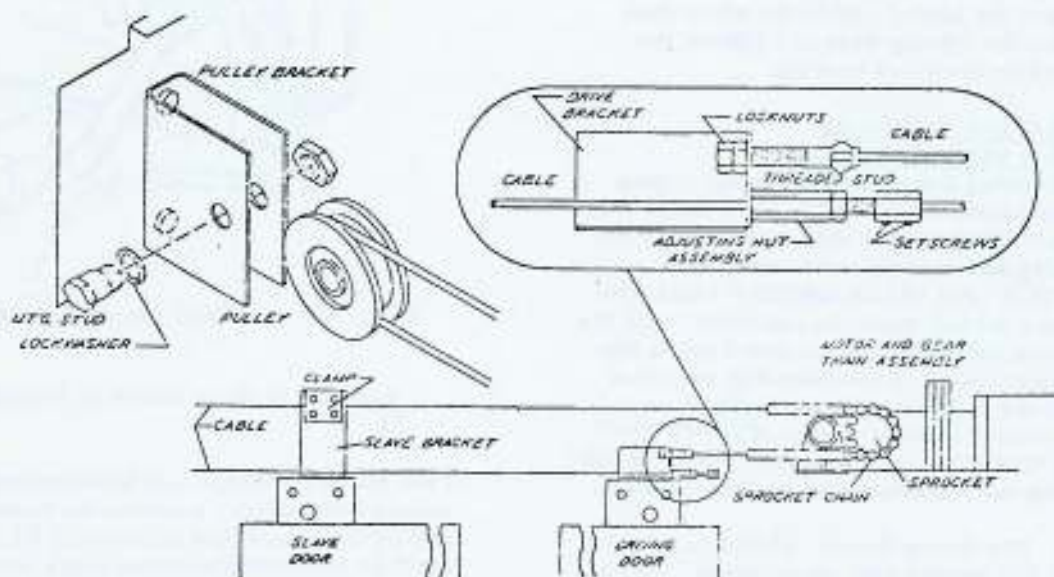

FIG. 26 Drive cable assembly installation details.
1. At a point about three feet from the end of the cable near the pulley bracket, loop the cable around the pulley (see FIG. 26). Install the pulley in the bracket with the mounting stud and lockwasher.
4. If the installation is for a Bi-Parting Pair System, secure the cable to the slave bracket on the slave door with four flat head screws, as shown in FIG. 26.